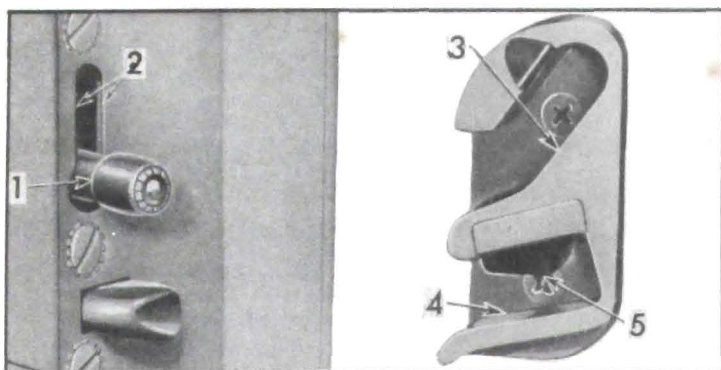

Figure 1-10—Door Lock and Striker
2. **Door Locks and Strikers.** Heavy bodied lubricants tend to gum up and hinder free movement of the lift bolt type locks. Referring to figure 1-10, use only SAE 10 engine oil at (1) roller and bolt (2) edges of bolt slot (3)